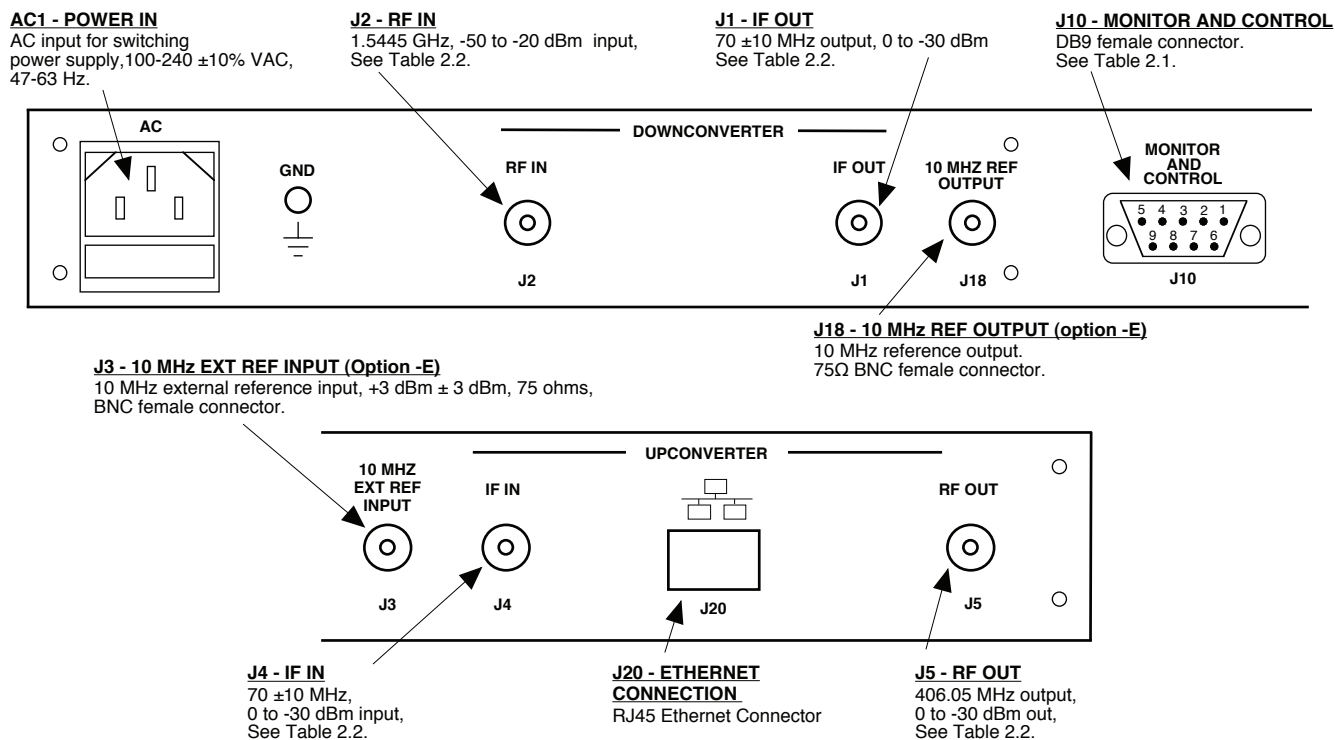

Figure 2.1 Model 2017-0415 Rear Panel I/O's
Figure 2.1 shows the input and output connectors on the rear panel.
- 1.) Connect a 0 dBm to -30 dBm signal to IF In, J4 (Figure 2.1).
- 1.) Connect a -50 dBm to -20 dBm signal to RF In, J2 (Figure 2.1).
When the internal reference mode is selected, the unit's internal 10 MHz reference will become the 'primary' source and the unit's synthesizers will lock to this internal 10 MHz reference. The unit will ignore any external 10 MHz signal present on the external reference input (J3 in figure 2.1). The unit will also buffer the internal 10 MHz signal and provide it on the Reference Out connector (J18 in figure 2.1) at +3 dBm, +/- 3 dB.